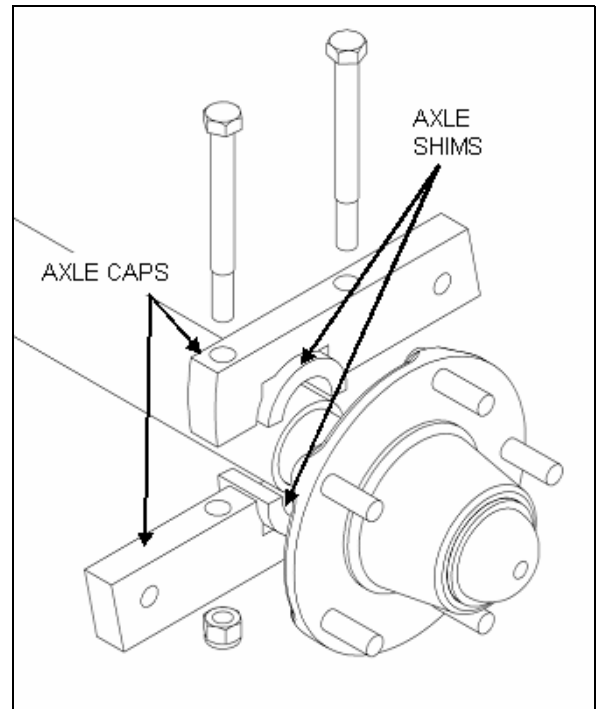

Figure 3.4 Axle Shims
2. Weld fitted shims to each axle cap (Figure 3.4).